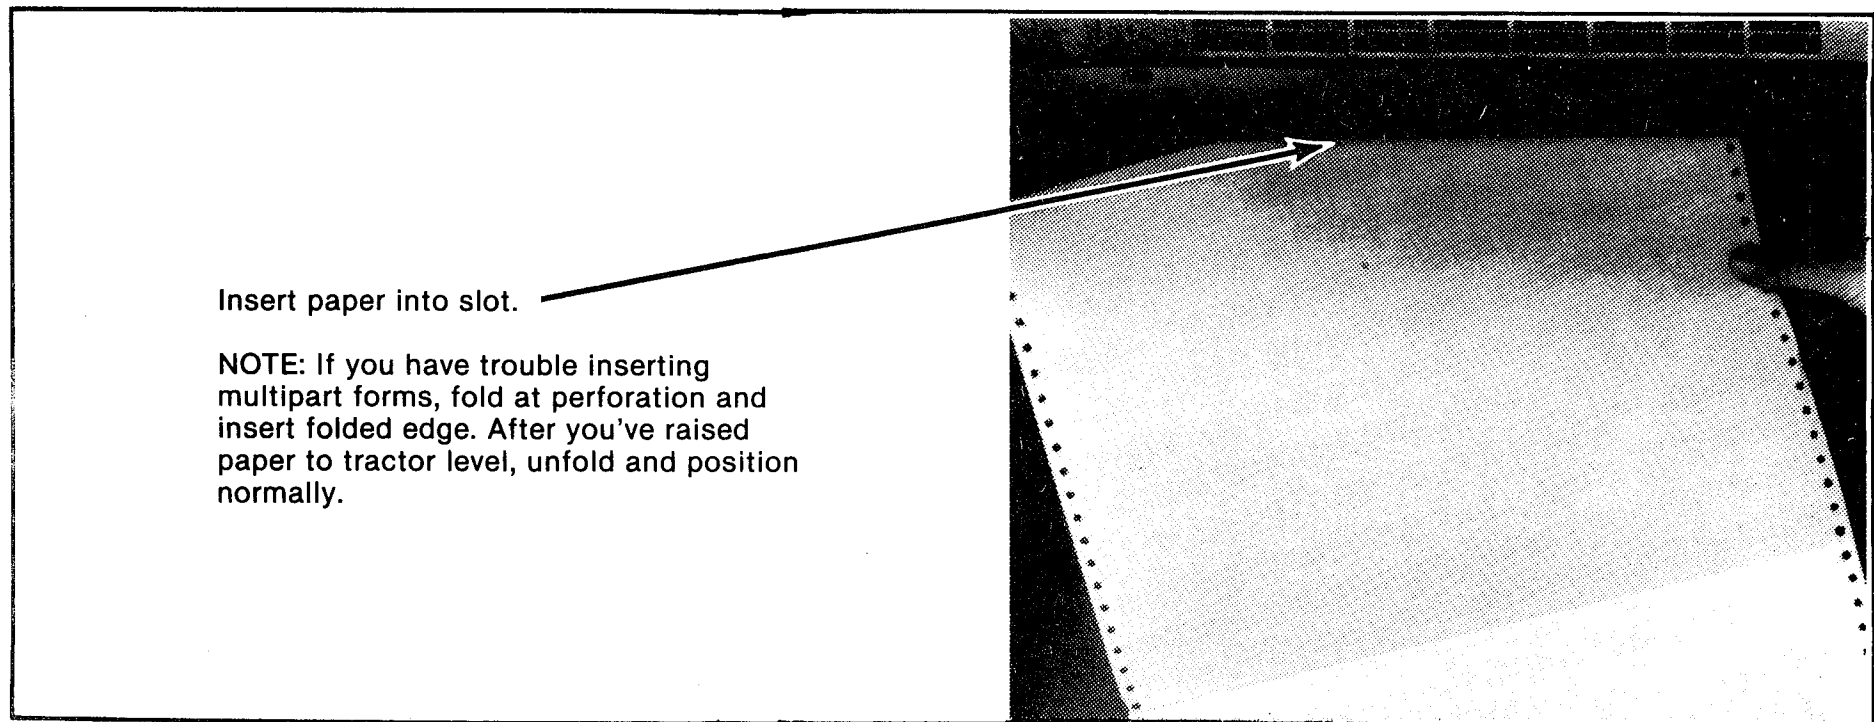

Figure 4. Inserting Paper
- Insert top edge of paper through slot in bottom of printer and move it upward until top paper edge can be grasped above print station (Figure 4).